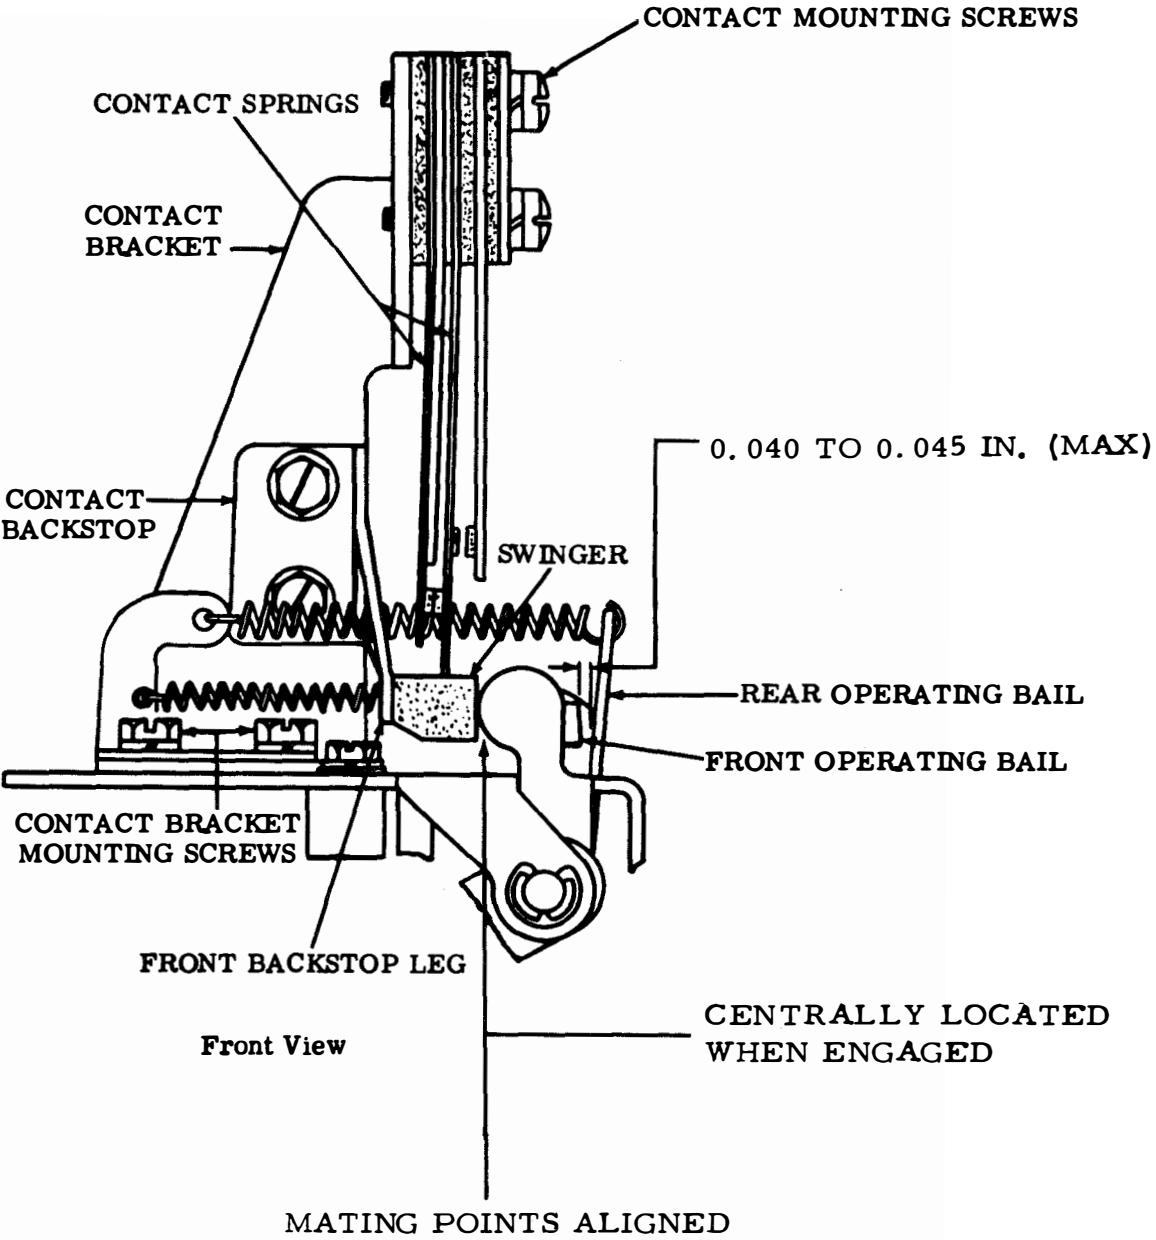

Figure 6-179. Contact Backstop and Contact Alignment
- (a) Refer to figure 6-179.
(2) Contact Alignment. Adjust as follows:
(3) Right Contact Gap. Adjust as follows: